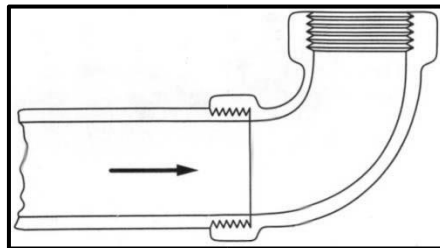

FIGURE 3.6
3.6 Answer the following question with regard to pipe connection in **FIGURE 3.6**: